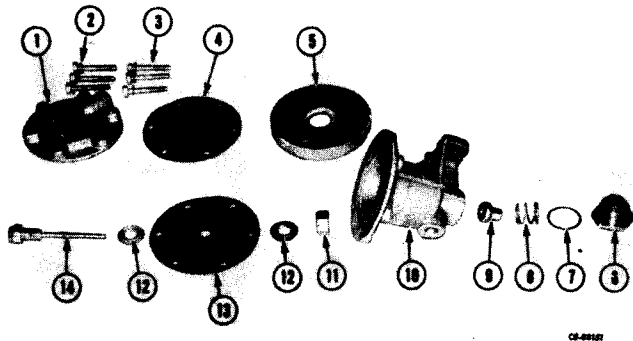

Figure 13-28
Remove cap (6, Fig. 13-28), gasket (7), spring (8) and valve (9). Remove cap screws (3) and lock washers (2). Separate body (1), diaphragm (4), body (5) and diaphragm (13) from the main body (10). Remove nut (11), push rod (14) and two washers (12) from diaphragm (13).
Install washer (12, Fig. 13-28), diaphragm (13), washer (12) and nut (11) on push rod (14). Place diaphragm (13), body (5), diaphragm (4) and body (1) on main body (10). Secure in place with cap screws (3) and lock washers (2). Install valve (9), spring (8), gasket (7) and cap (6) in top of body (10).